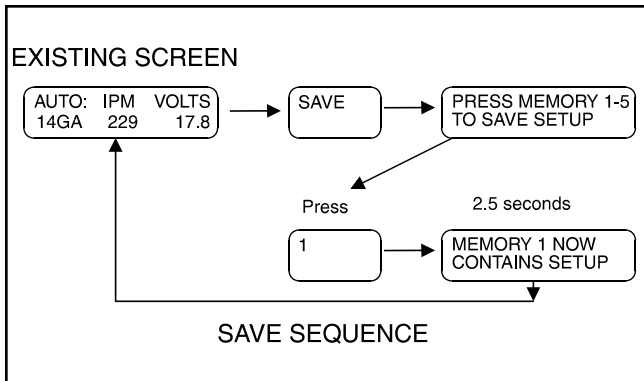

FIGURE B.3 - Sample SAVE Sequence.
- 6. SAVE KEY:** Press to save the current set up. The process, procedure, and timer functions (if used) are saved to one of five memory locations by pressing one of the five memory keys. When the Save key is pressed, a prompting message instructing the operator to "PRESS MEMORY 1-5 TO SAVE SETUP" is displayed. See Figure B. 3 for sample SAVE sequence. This message remains displayed until a memory number key is selected or one of the other keys, such as Auto, Manual, or Process, is pressed. If a memory number key is selected, a message will be displayed for 2.5 seconds that confirms that the setup was saved to that memory number.